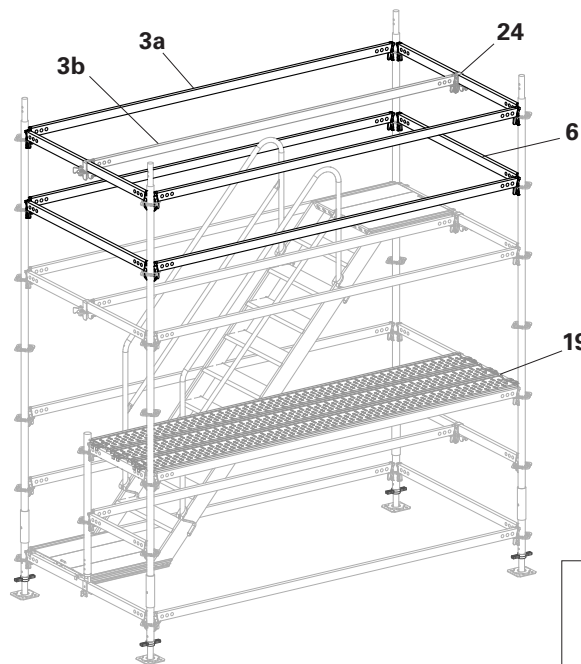

Fig. A3.07
4. Tighten all wedges. (Fig. A3.07)